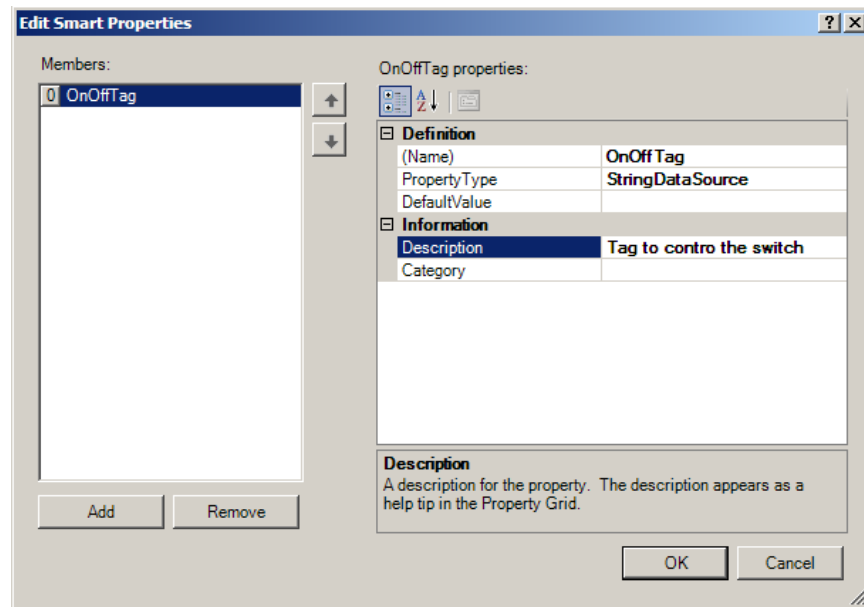

Figure L2.2 - Edit Smart Properties Dialog
8. Let's rename this Smart Property to "OnOffTag". You can add an option description if you wish. Your Edit Smart Properties dialog should look similar to Figure L2.2.